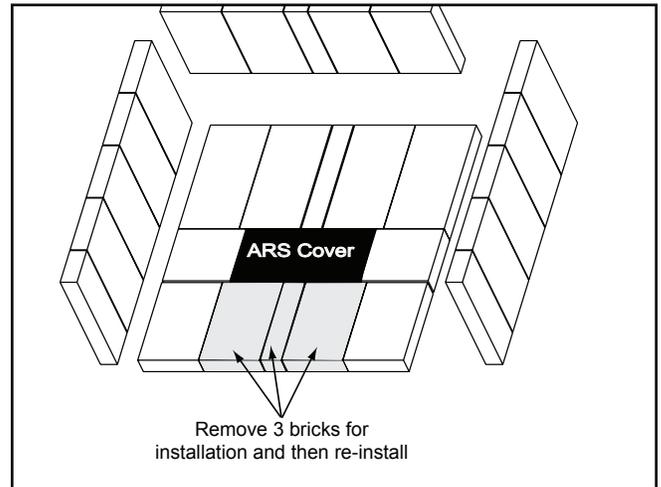

Figure 41.1
1. Remove 3 bricks as shown in **Figure 41.1** and remove the ARS access cover with tool supplied in the component pack.